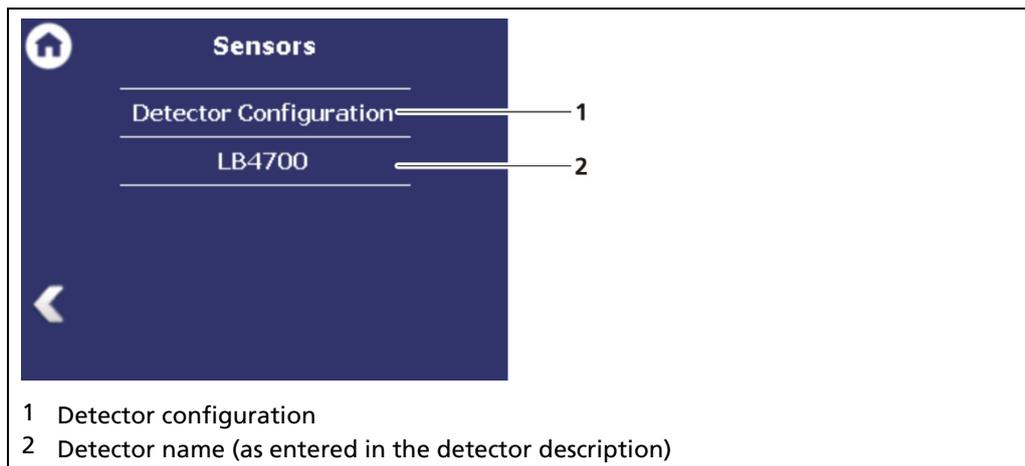

Fig. 53 Menu "Sensors"
- Detector configuration (Fig. 53, item 1)
- Configuration of the respective detector (Fig. 53, item 2)
In the window "Detector Configuration" the detectors for the measuring system are added and configured. Only configured detectors are listed and shown in the menu (Fig. 53). When a detector is selected (Fig. 54, item 6), the detector type (Fig. 54, item 4) and measuring task (Fig. 54, item 5) are shown.
Description	Detector description. Also used for error messages, logs and in the menu structure (Fig. 53).